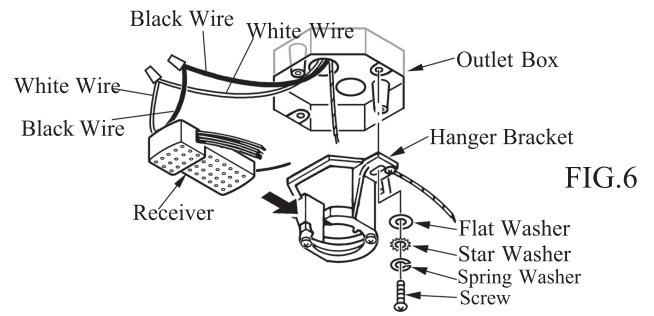

FIG.6
1. Securely attach the hanger bracket to the outlet box by washers and screws supplied. Connect white wire from ceiling to white wire from receiver with wire nut. Connect black wire from ceiling to black wire from receiver with wire nut. (See fig.6)